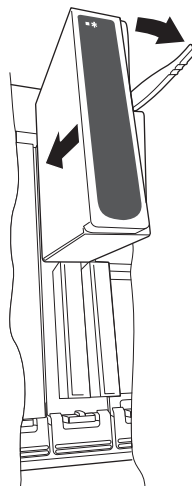

Figure 5 Module installation
1. Pull the module retaining lever forwards into the unlocked position as shown in Figure 5.